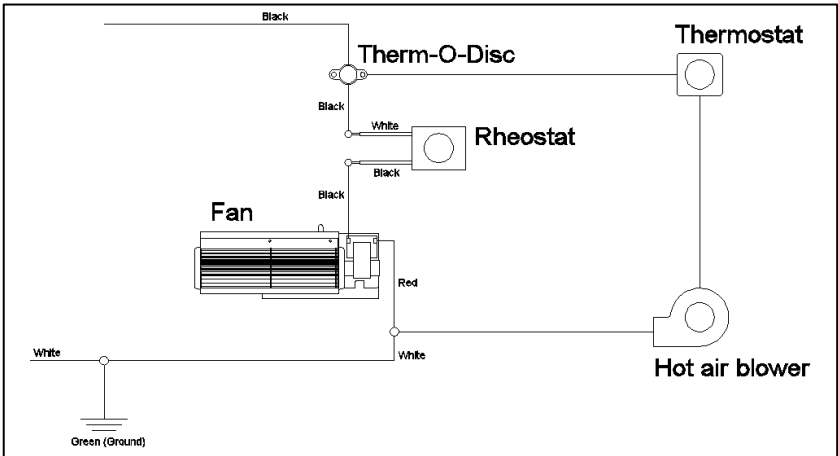

Figure 4-2: Electrical Diagram for P connection of Hot Air Kit and Blower Kit
8. Make the electrical connections (Figures 4-2 and 4-3). Note that the power supply to the blower is 115V.